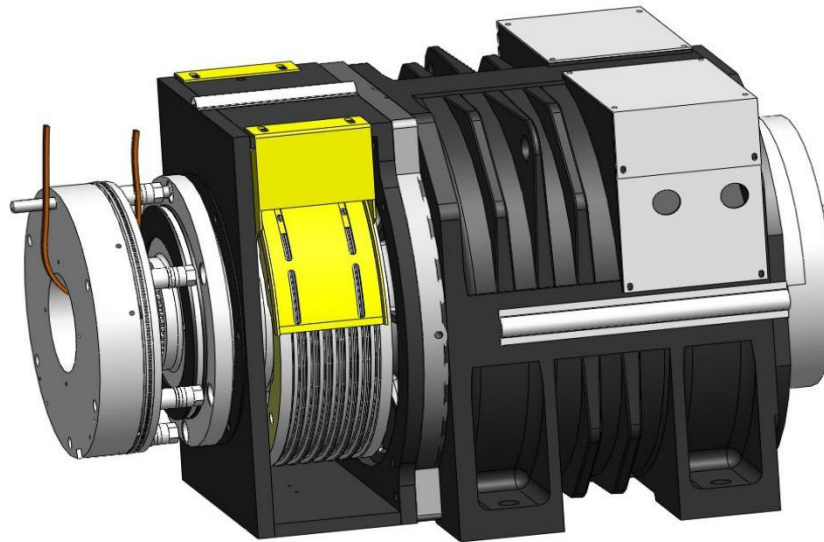
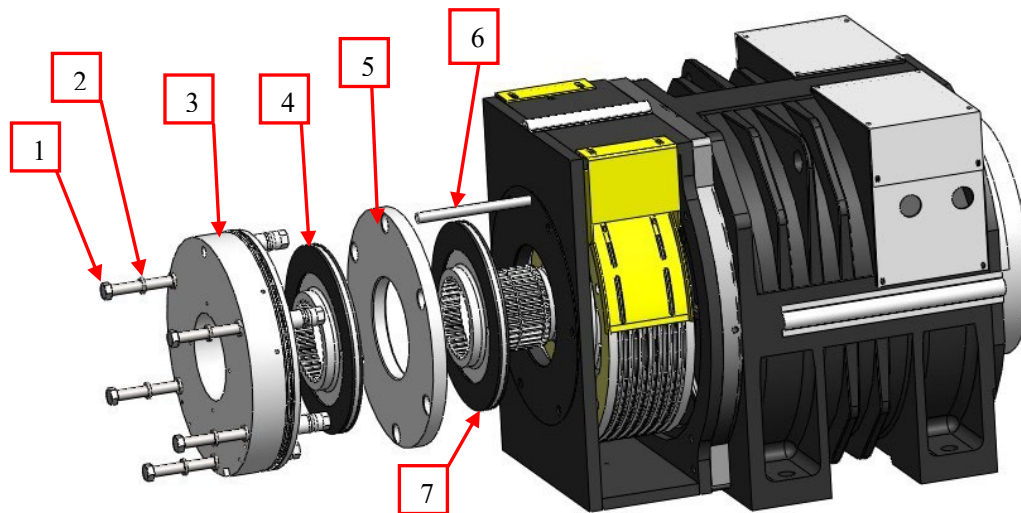

Figure 36 Remove Emergency Brake
Figure 37 Emergency Brake Parts
5. Loosen other 5 bolts M16x165 evenly; move out the emergency brake; then hoist out the brake with hoisting ropes (See Figure 36, Figure 37 and Table 3). Remove the brake coil body, friction lining part A, anchor disc and friction lining part B.